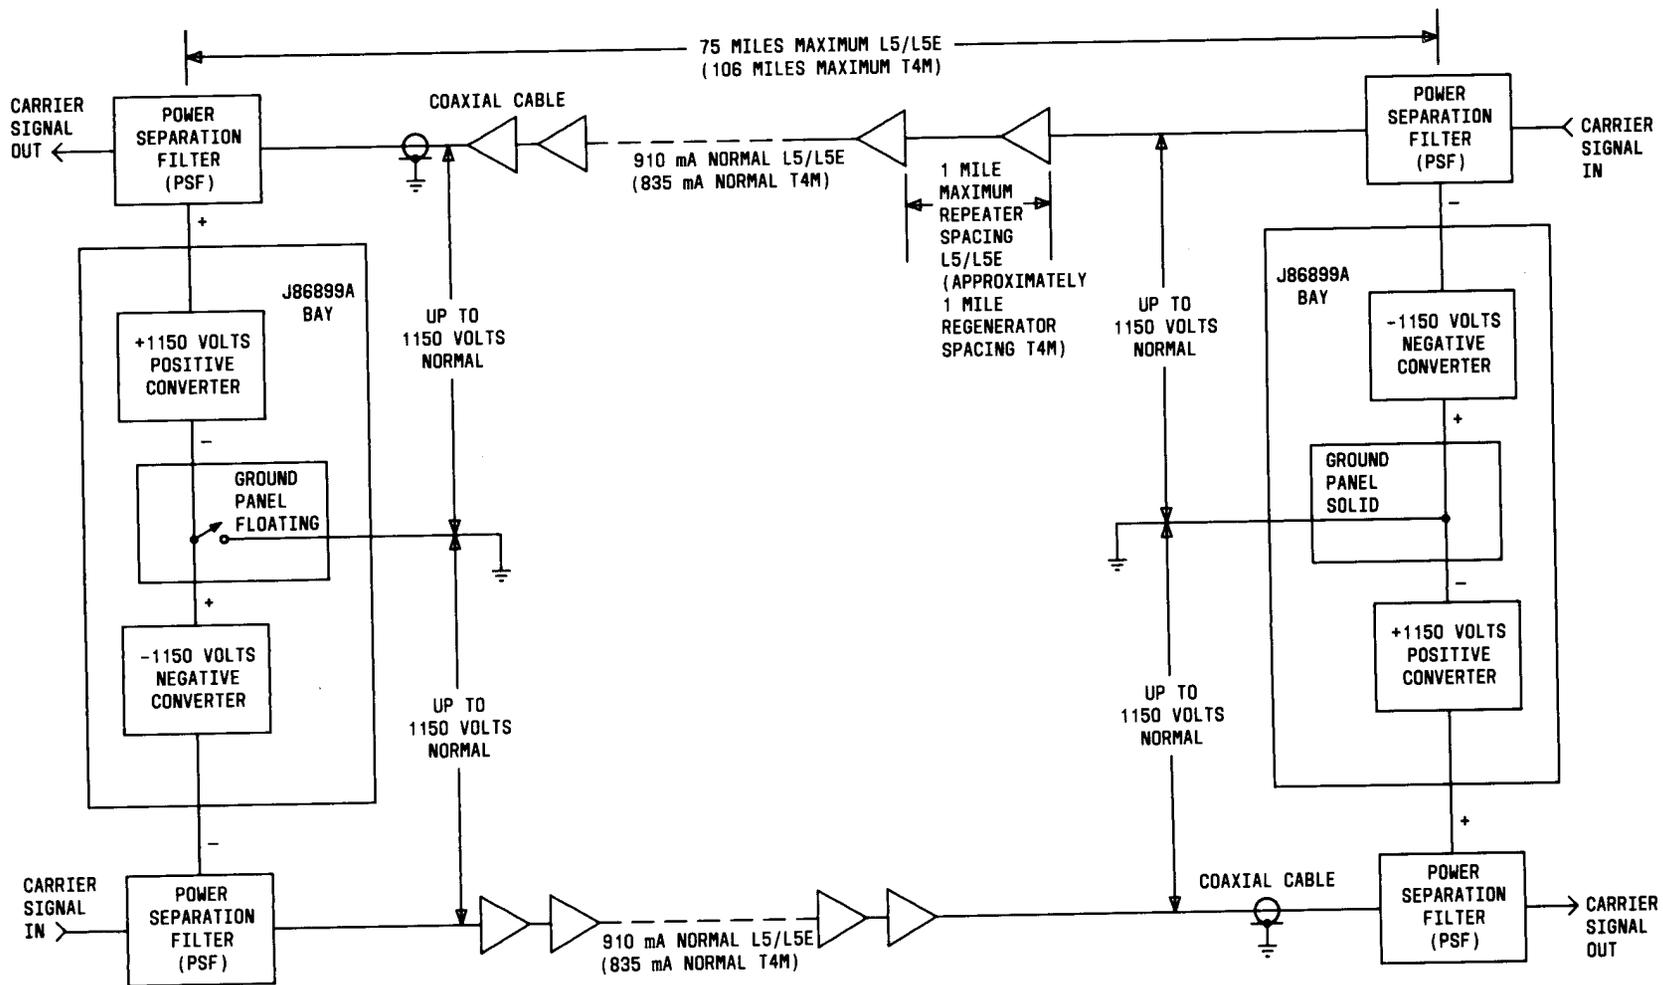

Fig. 4—T4M or L5/L5E Double-Ended Power Feed Using 680B Power Plant
1.06 If the length of the coaxial line is in the range of 37.5 to 75 miles for a L5/L5E system, or 53 to 106 miles for a T4M system, a double-ended power feed arrangement is used (see Fig. 4). A double-ended power feed is powered by two regular CONVERTER bays. One regular CONVERTER bay is used at both ends of the coaxial cable pair. The POSITIVE CONVERTER at one end, together with the NEGATIVE CONVERTER at the opposite end, powers one of the coaxial tubes. The remaining NEGATIVE and POSITIVE CONVERTER supplies power to the other cable (tube).